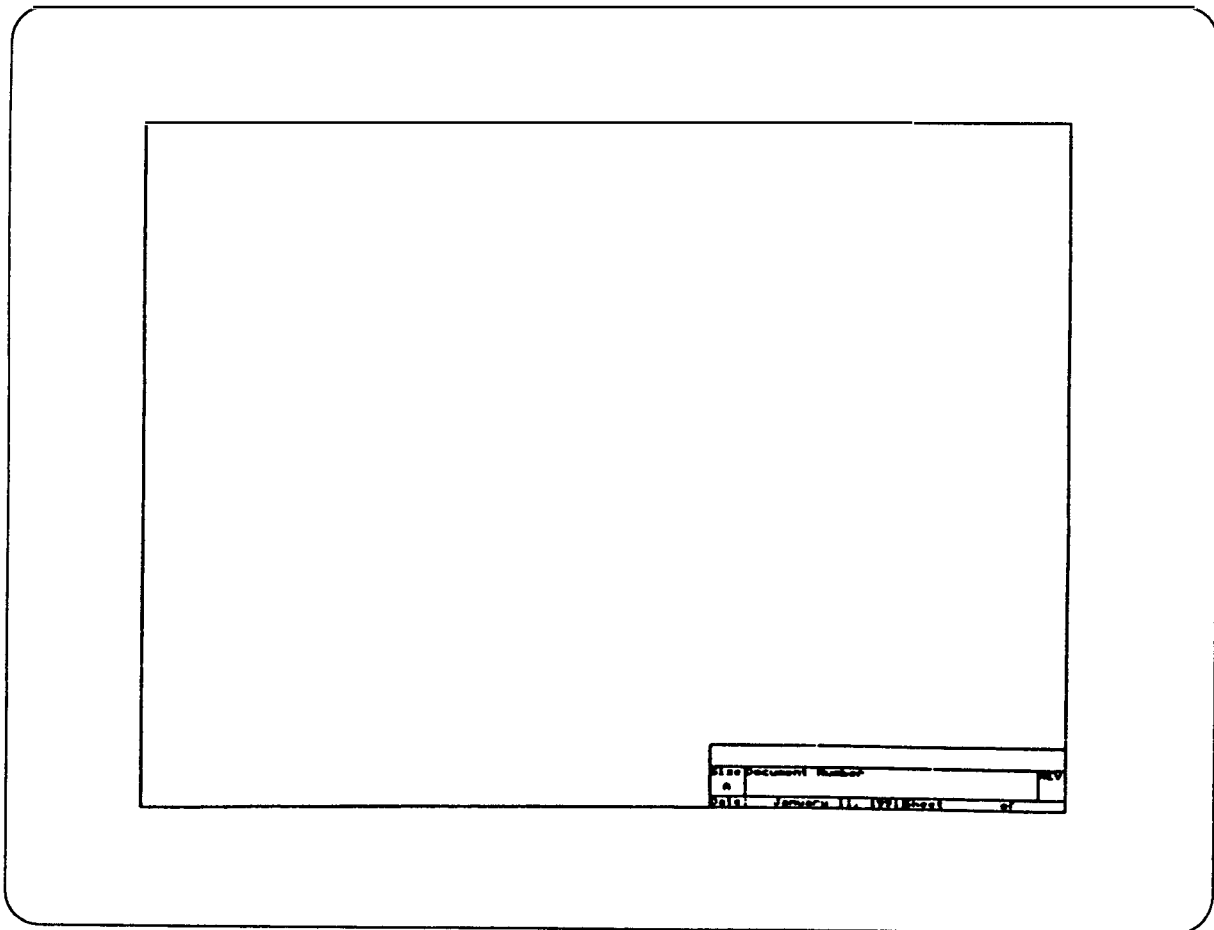

Figure 4-1.
The following example demonstrates SAMMS PREMIUM SOFTWARE PACKAGE commands, assuming mouse control. Refer to the following Figures 4-1 to 4-4.
3. Press ENTER key twice, when prompted. You should see Figure 4-1.